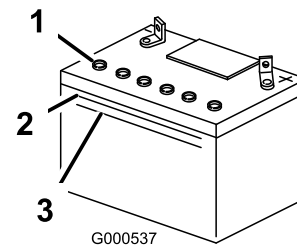

Figure 43
1. Look at the side of the battery. The electrolyte must be up to the **upper line** (Figure 43). Do not allow the electrolyte to fall below the **Lower line** (Figure 43).
3. Remove the vent caps from the battery (Figure 43).
4. Slowly pour distilled water into each battery cell until the electrolyte level is up to the Upper line (Figure 43) on the battery case.
- Wait five to ten minutes after filling the battery cells. Add distilled water, if necessary, until the electrolyte level is up to the Upper line (Figure 43) on the battery case.